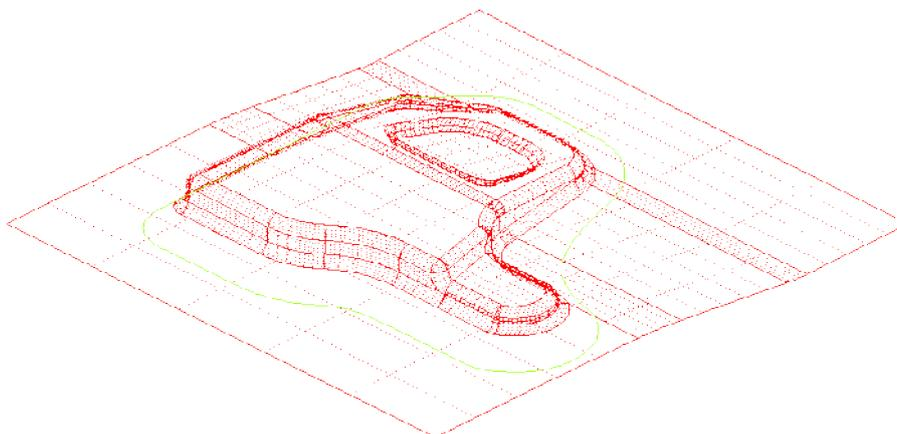

Figure 5.2 Illustration of model in Exercise 5
2. Select the data file, following by clicking the **Import** button. Now, the model illustrated in Figure 5.2 is displayed on the display area.